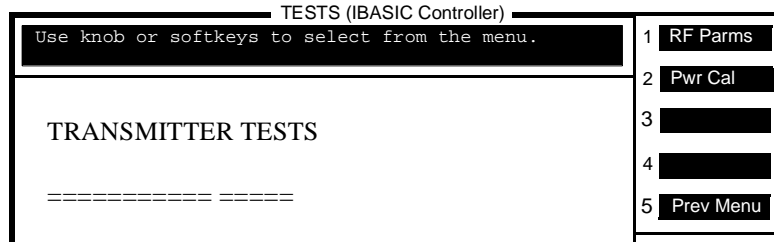

Figure 68 Transmitter Tests Menu
- a. From the MAIN MENU, select (1) **Transmitter Tests**. The TRAMSMITTER TESTS menu appears, see figure 68.